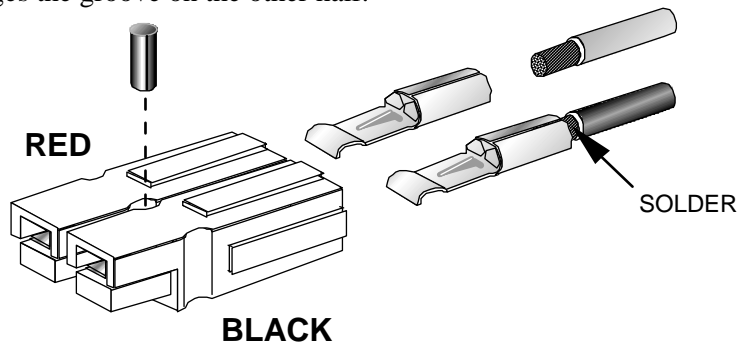

Figure 43. Power Cable Connector Assembly.
- Locate the two Anderson power connector shells. Orient them as shown in Figure 43 and slide them together so the tongue on one side fully engages the groove on the other half.
- Insert the terminals into the housings exactly as shown in Figure 43. The terminals should snap securely in place. Pull on the wires individually and make sure they cannot be pulled out (if so, the terminals are probably inserted upside down).